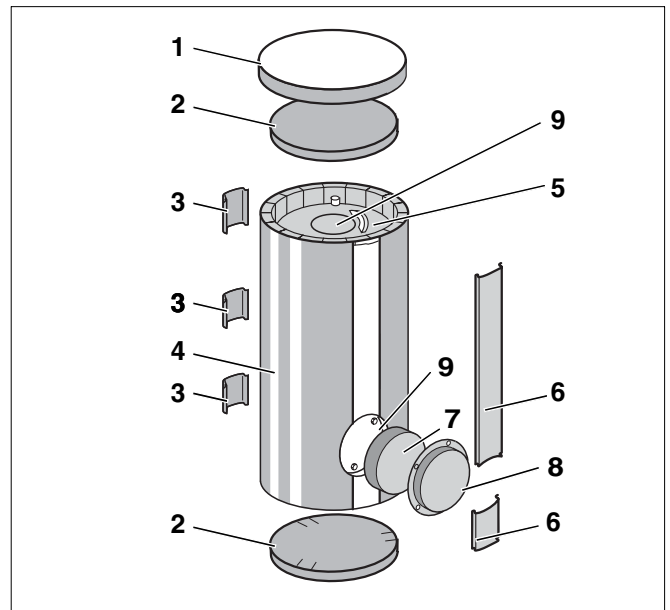
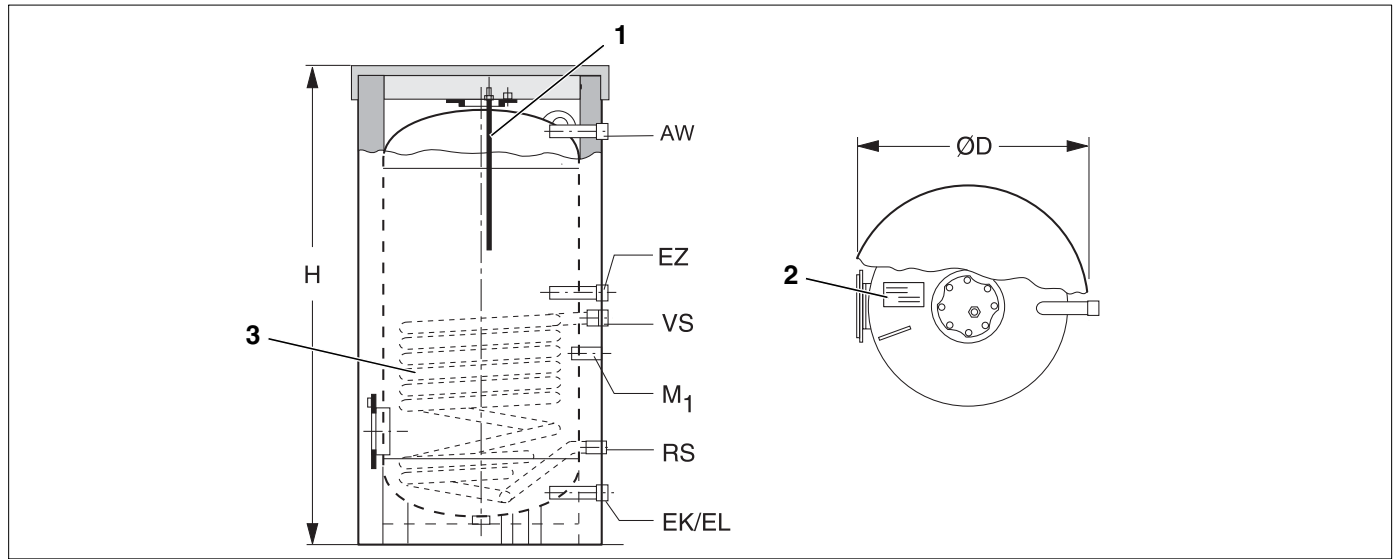

Fig. 1 Logalux ST400/3 – 1000/3 DHW tank
Fig. 2 Sectional view of DHW tanks
- DHW tank (Fig. 1, **Item 5**) with corrosion protection. The cathodic corrosion protection is the hygienic DUOCLEAN MKT thermo-glazing from Buderus and the magnesium anode mounted on the top access port (Fig. 2, **Item 1**).
The removable cover components are the lid (Fig. 1, **Item 1**), the access port cover (Fig. 1, **Item 8**), the two-piece cover strip (Fig. 1, **Item 6**) at the front and the three-piece cover strip at the back (Fig. 1, **Item 3**).
- Thermal insulation jacketing (Fig. 1, **Item 4**)
- Top and bottom thermal insulation (Fig. 1, **Item 2**)
- Front thermal insulating disk (access port) (Fig. 1, **Item 7**)
- Front access port (Fig. 1, **Item 9**)
- Sensor well for installation of a DHW temperature sensor (Fig. 2, page 6, **M**)
The coil type heat exchanger (Fig. 2, **Item 3**, page 6) transfers the energy from the heating water to the DHW inside the tank. The tank content is evenly heated through.